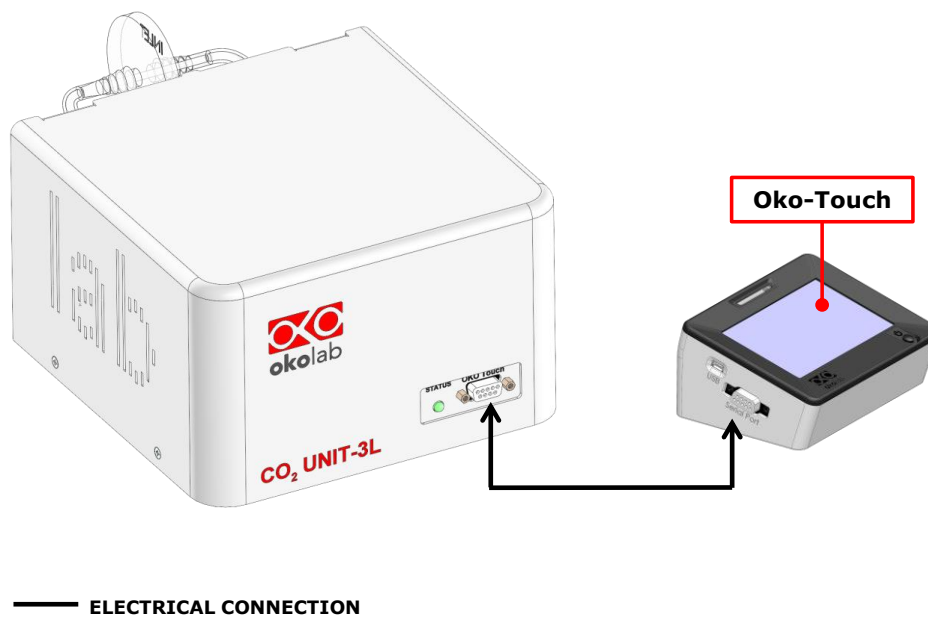

Figure 10. OKO-TOUCH-XL connection.
- 6 If CO2-UNIT-3L is equipped with OKO-TOUCH-XL, see Figure 10 for connection instructions.